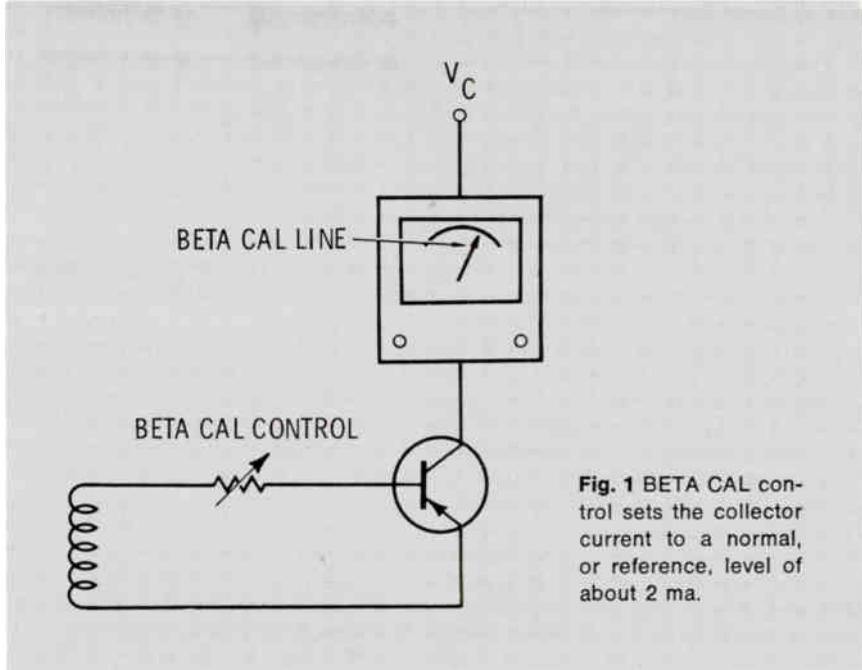

Fig. 1 BETA CAL control sets the collector current to a normal, or reference, level of about 2 ma.
With the tester connected to the transistor, the BETA CAL control is adjusted to the BETA CAL line on the meter. This sets the collector current to a normal level of about 2 milliamps, as shown in Fig. 1. When the TEST or GAIN button is depressed, the meter is transferred to the base circuit, as shown in Fig. 2, and the amount of base current
**Fig. 1** Jud Williams Model A transistor curve tracer, one of at least three commercially produced curve tracers now available. Unit shown here simultaneously applies one step of a staircase waveform of current to the base of a transistor and a parabolic voltage to its collector. Emitter-collector current (voltage dropped across emitter resistor) is used to drive the vertical deflection of a scope and the collector voltage provides horizontal deflection. The resultant waveform is a "family of curves" which reveals the degree of control the base exercises over emitter-collector current, levels of leakage between junctions and AC gain, or beta (ratio of base and collector currents). Two three-prong sockets on top of unit are for out-of-circuit testing of transistors. Three-prong probe which is plugged into PROBE socket on front panel of unit is used for in-circuit testing. Connections to scope are located at rear of unit.
Dynamic transistor curve tracers are beginning to be heralded as the best solution to some of the shortcomings of the preceding tests. Follow with us as we thoroughly check out the performance of the Jud Williams Transistor Curve Tracer, Model A (photo in Fig. 1).